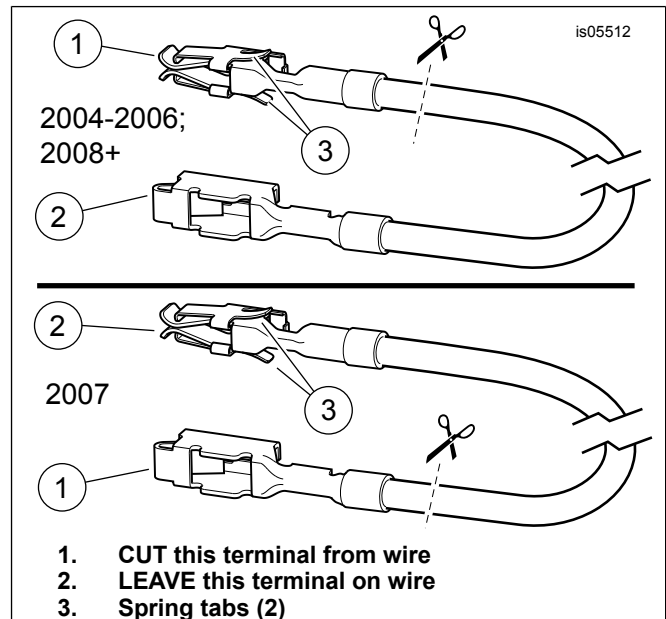

Figure 9. Fuse Block Adapter Wire (FL Touring)
2. Obtain the orange/white fuse block adapter wire (11) from the kit. **For 2004 through 2006 models:** Note the terminal on each end (see Figure 9, **upper view**). Only the terminal **WITHOUT** the spring tabs will fit into the fuse cavity. Carefully cut the terminal **WITH** spring tabs from the wire and discard it. **For 2007 models:** Note the terminal on each end (see Figure 9, **lower view**). Only the terminal **WITH** the spring tabs will fit into the fuse cavity. Carefully cut the terminal **WITHOUT** spring tabs from the wire and discard it.